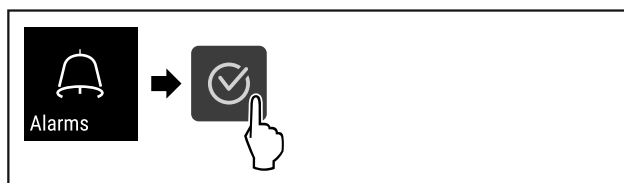

Fig. 121
- ▶ Complete steps (see Fig. 121).